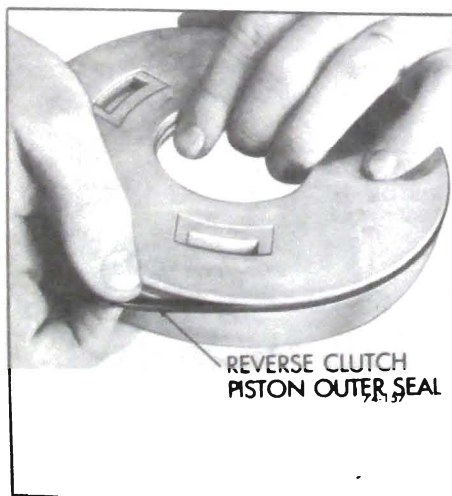

Figure 74-157
7. Examine reverse clutch piston outer seal. If nicked, torn or worn, remove seal. See Figure 74-157.